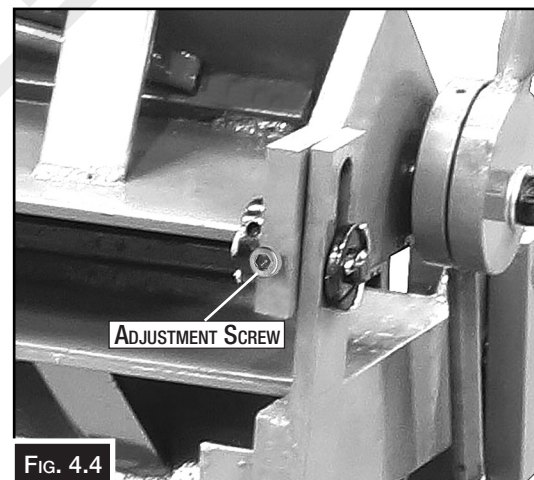

FIG. 4.4
3. Loosen cap screws securing setback wheels. (Fig. 4.4).